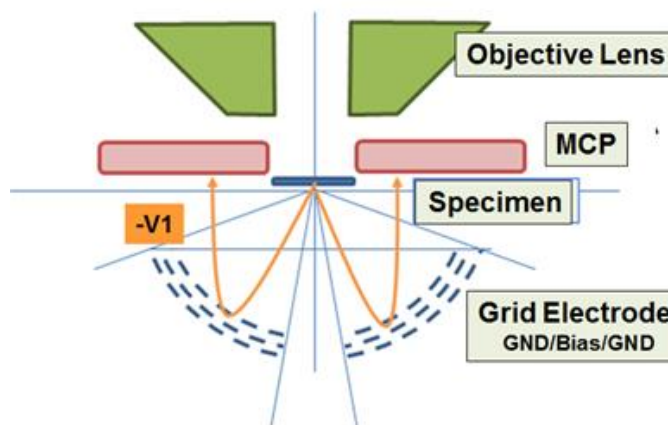

Fig. 1. Schematic of a inverted fountain detector.
Observation of some nanosheet whose thickness is smaller than the escape depth of secondary electrons (SEs) looks interesting. The primary electrons may only be scattered at once through passing this nanosheet and some SEs may be generated in the nanosheet. Such SEs may be emitted upward or downward from the specimen surfaces. The relation between such SEs are worth while to investigate. As the first step of such a study, we have developed of "fountain detector (FD)" to detect the SEs emitted downward from the lower surface of nanosheet. Fig. 1 shows the schematic of this detector. A FD is set as upside-down in SEM to detect low energy SEs travel downward. The SEs emitted from the lower surface travel downward and may be reflected by the bias grid if their energies are lower than the bias voltage ($-V_1$). Such reflected electrons are come into micro-channel plate (MCP) and give the signal. Taking the SE images by changing the bias voltage, we can get the low pass SE images. Image subtraction may give the energy spectra of SE.